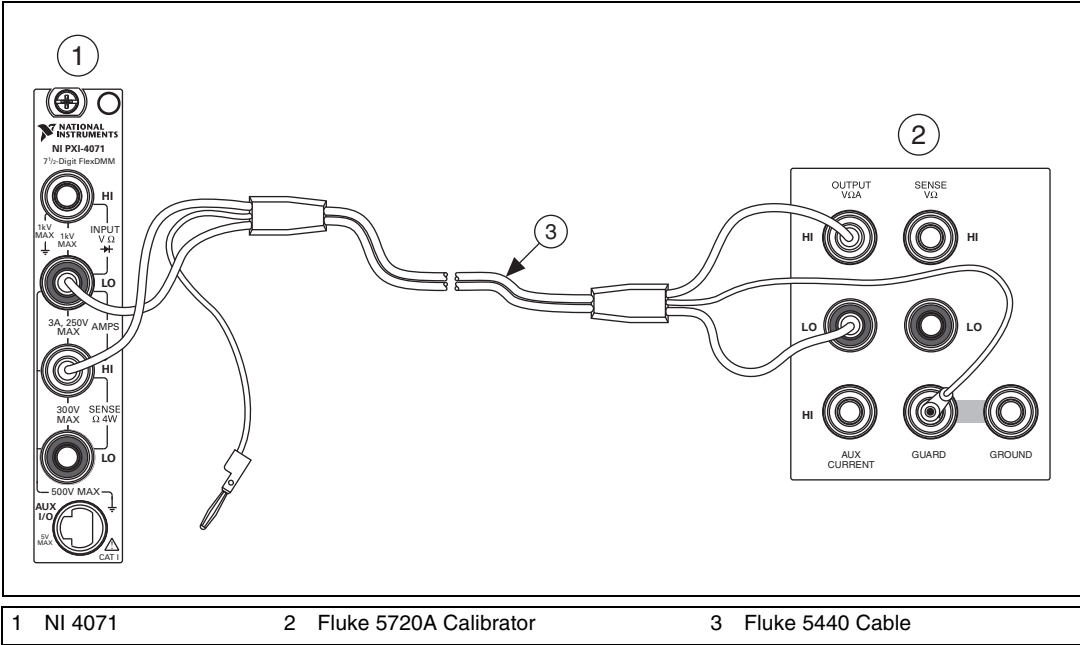

Figure 6. Cable Connections for Current
31. Connect the NI 4071 and the Fluke 5720A calibrator using the Fluke 5440 cable, as shown in Figure 6. Table 15 lists the cable connections.
2. Connect the NI 4071 and the Fluke 5720A calibrator using the Fluke 5440 cable, as shown in Figure 6. Table 15 lists the cable connections.